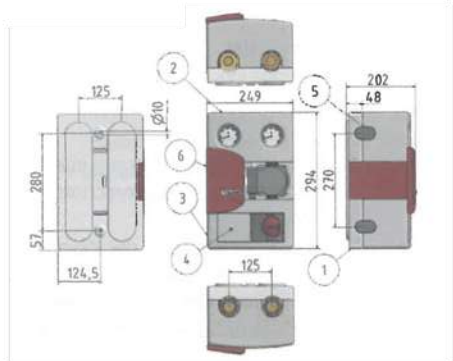

Fig. 1: DN25 pump assembly dimensions
The pump unit is used for unmixed and mixed heating circuits (HC) with the supply pipe on the left or right. The components installed in the pump unit are shown in the Components table and in Figures 1–3.